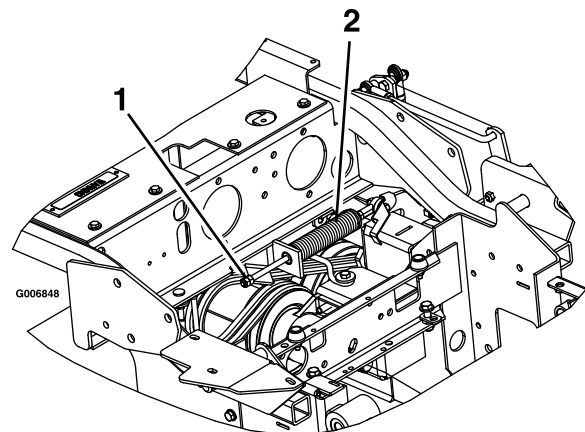

Figure 23
2. Locate the brake spring and thread the two jam nuts out to the end of the brake spring rod (see Figure 23).